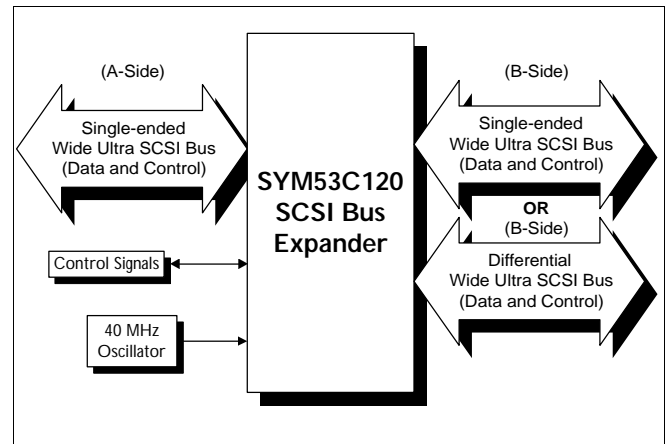

Figure 1-1: SYM53C120 SCSI Bus Device
Figure 1-1 illustrates the connectivity of the SYM53C120 SCSI Bus Expander device. A SCSI single-ended(SE) bus connects directly to the SCSI A-side. The interface signals are SCSI bus compatible driver and receiver signals with no internal termination. The SCSI B-side has the single-ended capable driver and receiver and also provides the individual driver controls